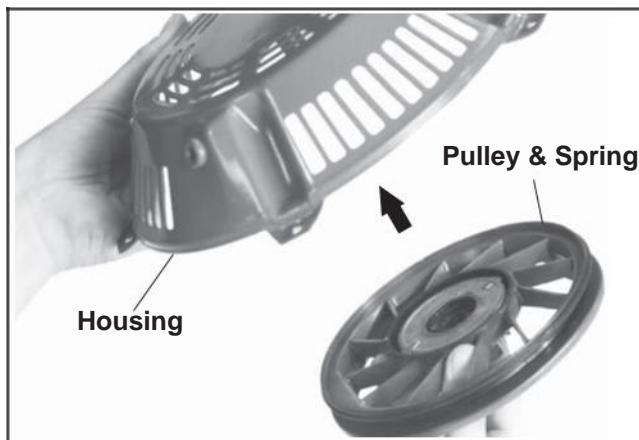

Figure 7-9. Installing Pulley and Spring into Housing.
2. Install the pulley and spring into the starter housing. See Figure 7-9.